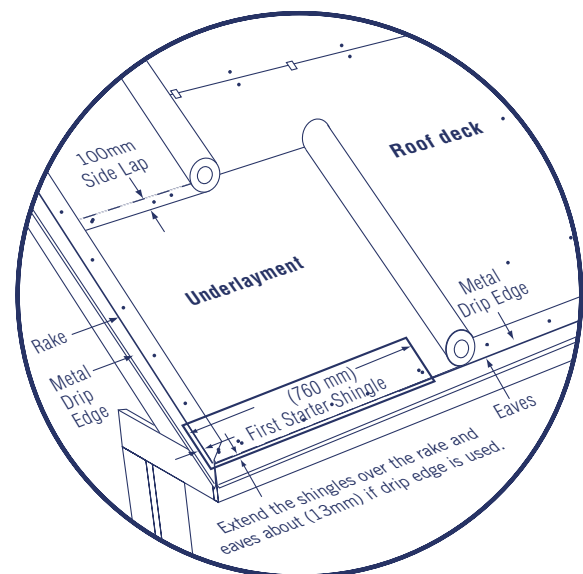

Figure 16-6: Standard slope underlayment and starter drip edge details
2. Cut 150mm off the length of the first starter shingle and apply the 750mm piece to the lower left corner of the roof (Figure 16-6).